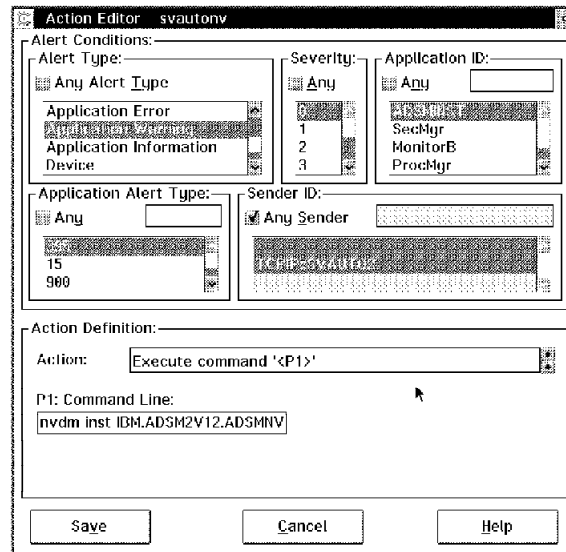

Figure 135. Action Editor
- Customize the parameters with the same values that you defined in the Genalert command. It should look like Figure 135.